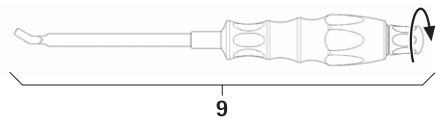

Fig. 14
- Mount rod insertion instrument 9, see Fig. 14.